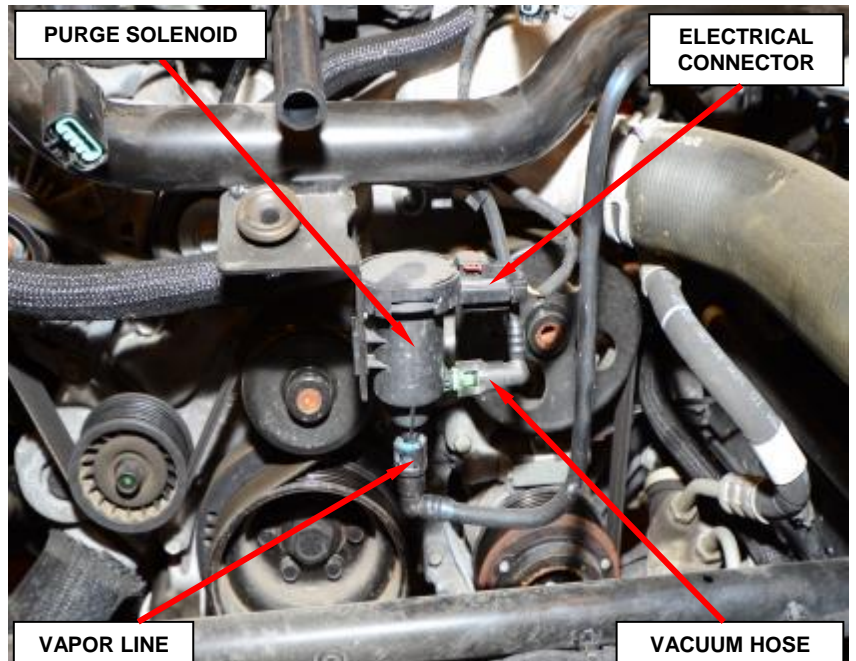

Figure 15 – Purge Solenoid
12. Disconnect the purge solenoid electrical connector, vapor line and vacuum hose (Figure 15).